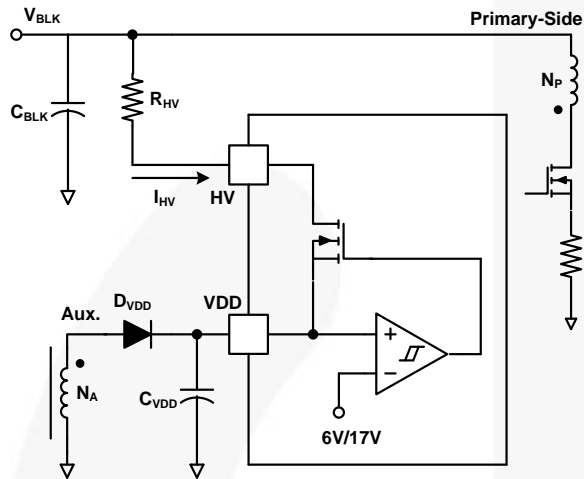
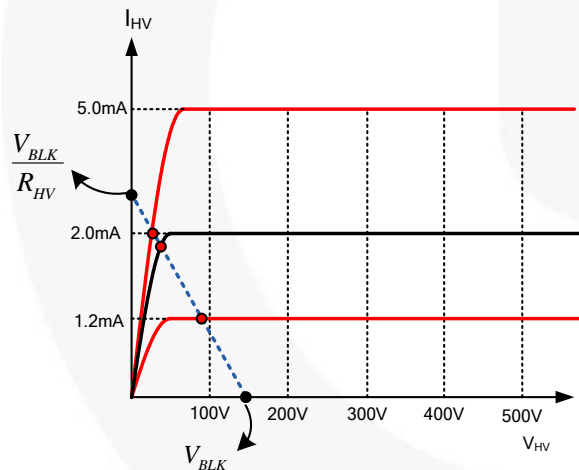

Figure 31. HV Startup Circuit
Figure 32. V-I Characteristic of HV Pin
Figure 31 shows the high-voltage (HV) startup circuit for FAN501 applications. The JFET is used to internally implement the high-voltage current source (see Figure 32 for characteristics). Technically, the HV pin can be directly connected to voltage (V_{BLK}) on an input bulk capacitor. To improve reliability and surge immunity, however, it is typical to use a \sim 100 k Ω resistor between the HV pin and bulk capacitor voltage. The actual HV current with a given bulk capacitor voltage and startup resistor is determined by the intersection of V-I characteristics line and load line, as shown in Figure 32.